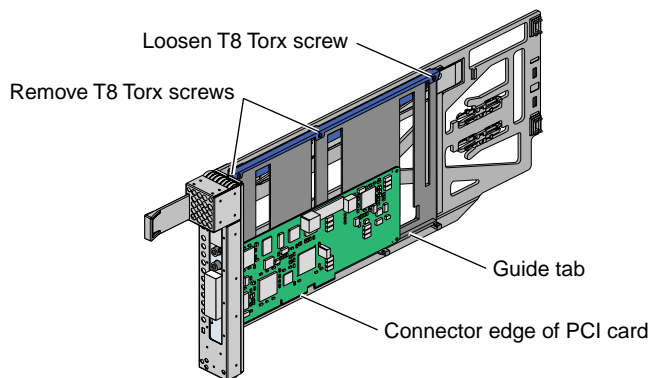

Figure 6-21 Mounting Half-height PCI Card into Carrier
- a. Remove the two screws from the carrier guide bar, as shown in Figure 6-21.
- c. Place the half-height PCI card in the carrier so that the connector edge of the card rests against the lower guide tab of the carrier (see Figure 6-21).